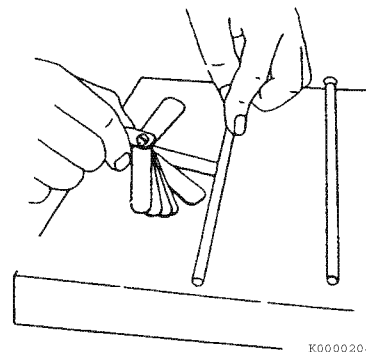

Figure 6-12
3. Use a feeler gauge to measure the gap (**Figure 6-12**). See *Push Rod* on page 6-5 for the service limit.